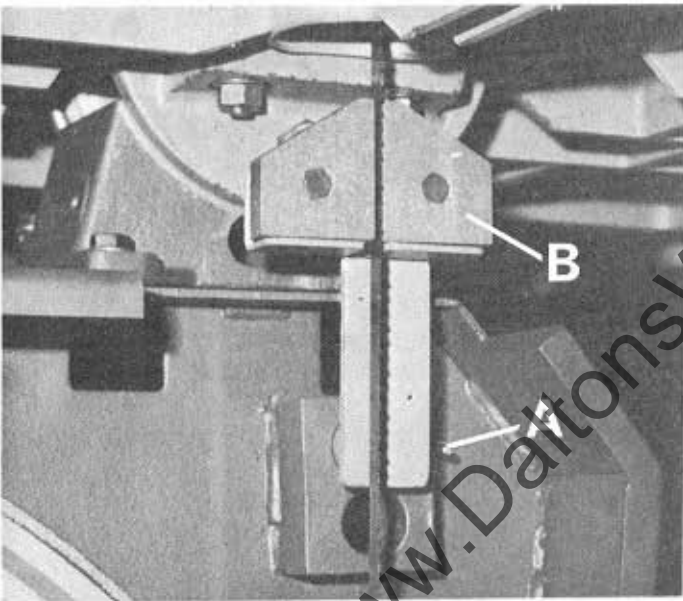

FIG 4
4. Loosen locking screw "C" and slide top saw guide "D" to extreme rear position. Loosen locking screw "A", FIG.4, and slide bottom sawguide "B" to extreme rear position.
BOTTOM GUIDE ASSEMBLY (STANDARD) FIG.4.